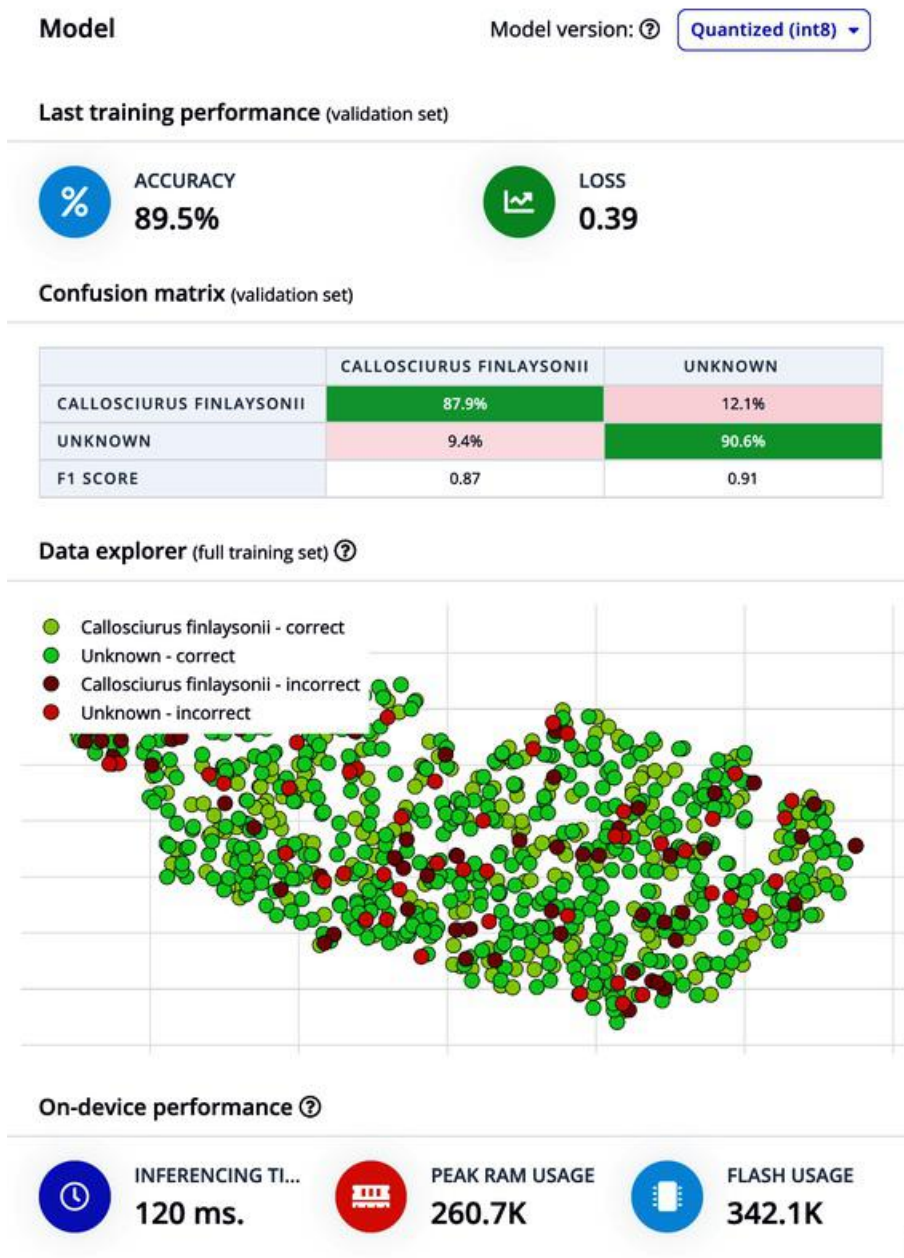

Figure 11-15. Transfer learning results with EON Tuner block configuration (89.5% accuracy)
**Figure 11-15** shows the default block results with the Image RGB DSP block and the original “Transfer learning” neural network block with MobileNetV2 96x96 0.35 (final layer: 16 neurons, 0.1 dropout), 100 training cycles, and 0.0005 learning rate.